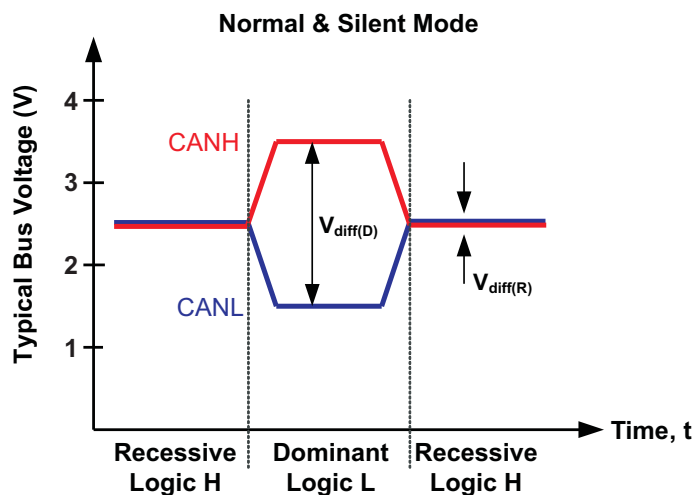
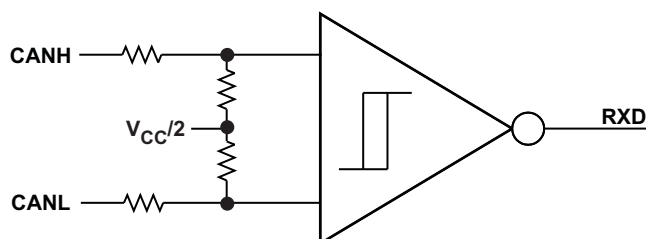

Figure 15. Bus States (Physical Bit Representation)
Figure 16. Simplified Recessive Common Mode Bias and Receiver
(1) H = high level, L = low level, X = irrelevant, Z = common mode (recessive) bias to  $V_{CC} / 2$ . See Figure 15 and Figure 16 for bus state and common mode bias information.
(2) Devices have an internal pulldown to GND on S pin. If S pin is open the pin will be pulled low and the device will be in normal mode.
(3) Devices have an internal pullup to  $V_{CC}$  on TXD pin. If the TXD pin is open the pin will be pulled high and the transmitter will remain in recessive (nondriven) state.
The CAN bus has two states during powered operation of the device: *dominant* and *recessive*. A dominant bus state is when the bus is driven differentially, corresponding to a logic low on the TXD and RXD pin. A recessive bus state is when the bus is biased to  $V_{CC} / 2$  via the high-resistance internal input resistors  $R_{IN}$  of the receiver, corresponding to a logic high on the TXD and RXD pins. See Figure 15 and Figure 16.